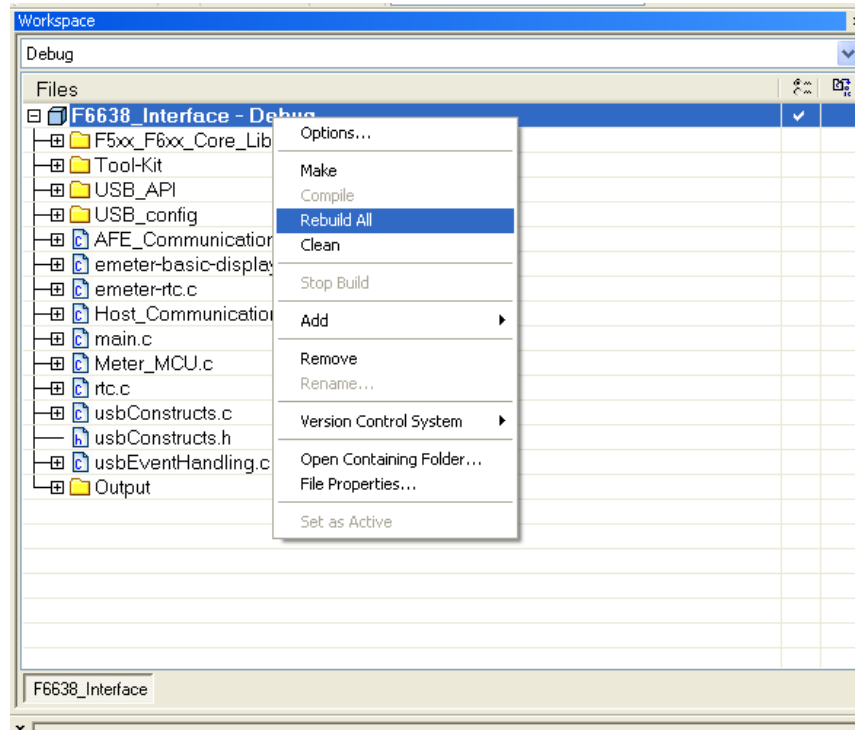

Figure 20. Application Compilation in IAR
2. Close the existing workspace, open the main project *MSP430F6638_Interface.ewp*, and *Rebuild All*, as shown in Figure 20.